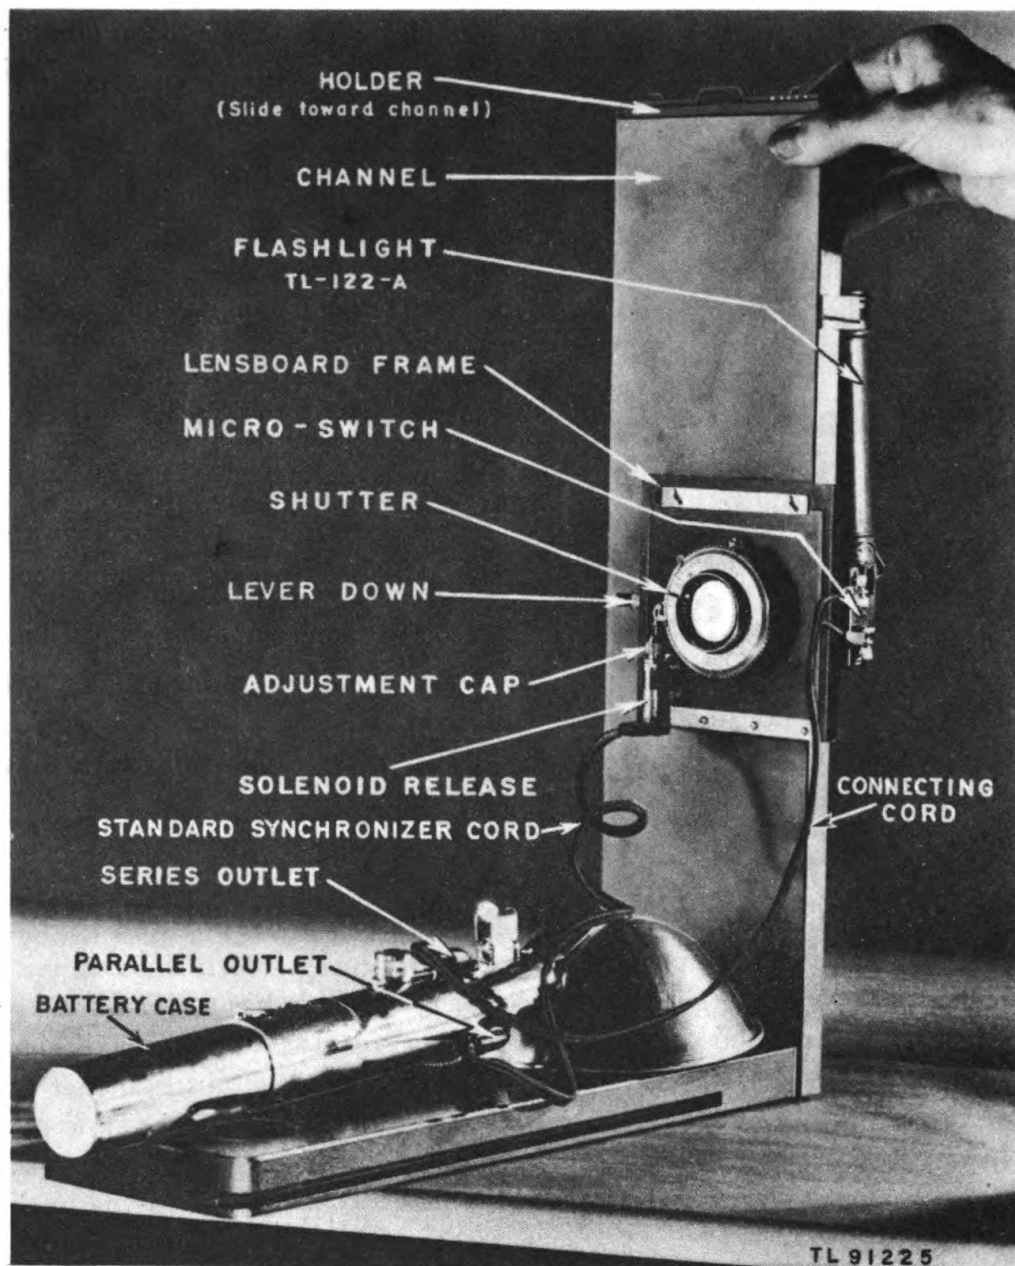

Figure 3. Timer PH-191-A, set up for visual test.
3. TIMER PH-191-A (figs. 3, 4, and 5).
(2) A single hole at the left and three holes at the right of the channel are placed at the height of the flashlight lamp. A disk with two holes is pivoted around the center of the three holes, so that when it is in its lower position, the arm covers the single hole at the left and exposes all three on the right.
(3) The lensboard frame (fig. 3) located on the front of the channel has the same type of slide lock and retaining strip as Camera PH-47-E. This lensboard frame holds the shutter during testing in alignment with the flashlight lamp.
Remove Timer PH-191-A from its carrying case and set up as shown in figure 3. Loosen the knurled thumbnuts to allow the movable block to extend from the base, and insert the slotted end of the channel between the block and the base, with the lensboard frame facing the opposite end of the base. Tighten the thumbnuts to secure the channel in position.
9. PREPARATION FOR USE (fig. 3).
a. Remove the lensboard, shutter, lens, and tripper, as one unit, from the camera, and install it in the lensboard frame on the front of the channel. Place the battery case as shown in figure 3.
(1) On the Graflex synchronizer, the series outlet may be found by unscrewing the button on the back of the battery case.
(2) On the Mendelsohn synchronizer, the series outlet may be found on either side of the button on the back of the battery case.
a. Visual Adjustment (figs. 3 and 5). This test does not require the use of a flash lamp or photographic paper. Make the adjustment in a dark or dimly lighted room, so that the colored slots in the slide will be easily visible.
(1) Set the lever in its horizontal position so that all three holes in the right side of the channel are opened and the single hole at the left side of the channel is covered by the lever.
(2) Set the shutter at its highest speed, cock it, and open the diaphragm of the lens to its maximum aperture.
(3) If the two cells are not in Flashlight TL-122-A, remove the end cap and install them properly. Pull out the wire loop in the cap on the base of the flashlight and turn the cap until the loop projects from the flashlight in exactly the same direction as the reflector. Place the loop over the extreme top projection of the flashlight bracket on the rear of the channel and allow the flashlight to hang down with its reflector facing the channel and opposite the three holes.
(4) Light the flashlight.
(5) Place the holder at the top of the channel with its slide facing toward the channel, making sure that it is in such a position that the three slots will pass behind the three corresponding holes in the channel.
(6) Place the eye directly in front of the lens.
(7) Hold the holder (fig. 3) so that the bottom edge of the grey band on the top of the slide is exactly even with the top of the channel, and allow it to fall freely by relaxing the pressure of the forefinger. The holder will press the spring finger of the microswitch, thus actuating the flash synchronizer.
(8) If properly synchronized, the shutter should show all three colors (red, white, and blue) in their proper position, simultaneously and with equal brightness, as the shutter opens and closes. If the shutter is not properly synchronized (that is, if it is fast or slow) proceed as follows: